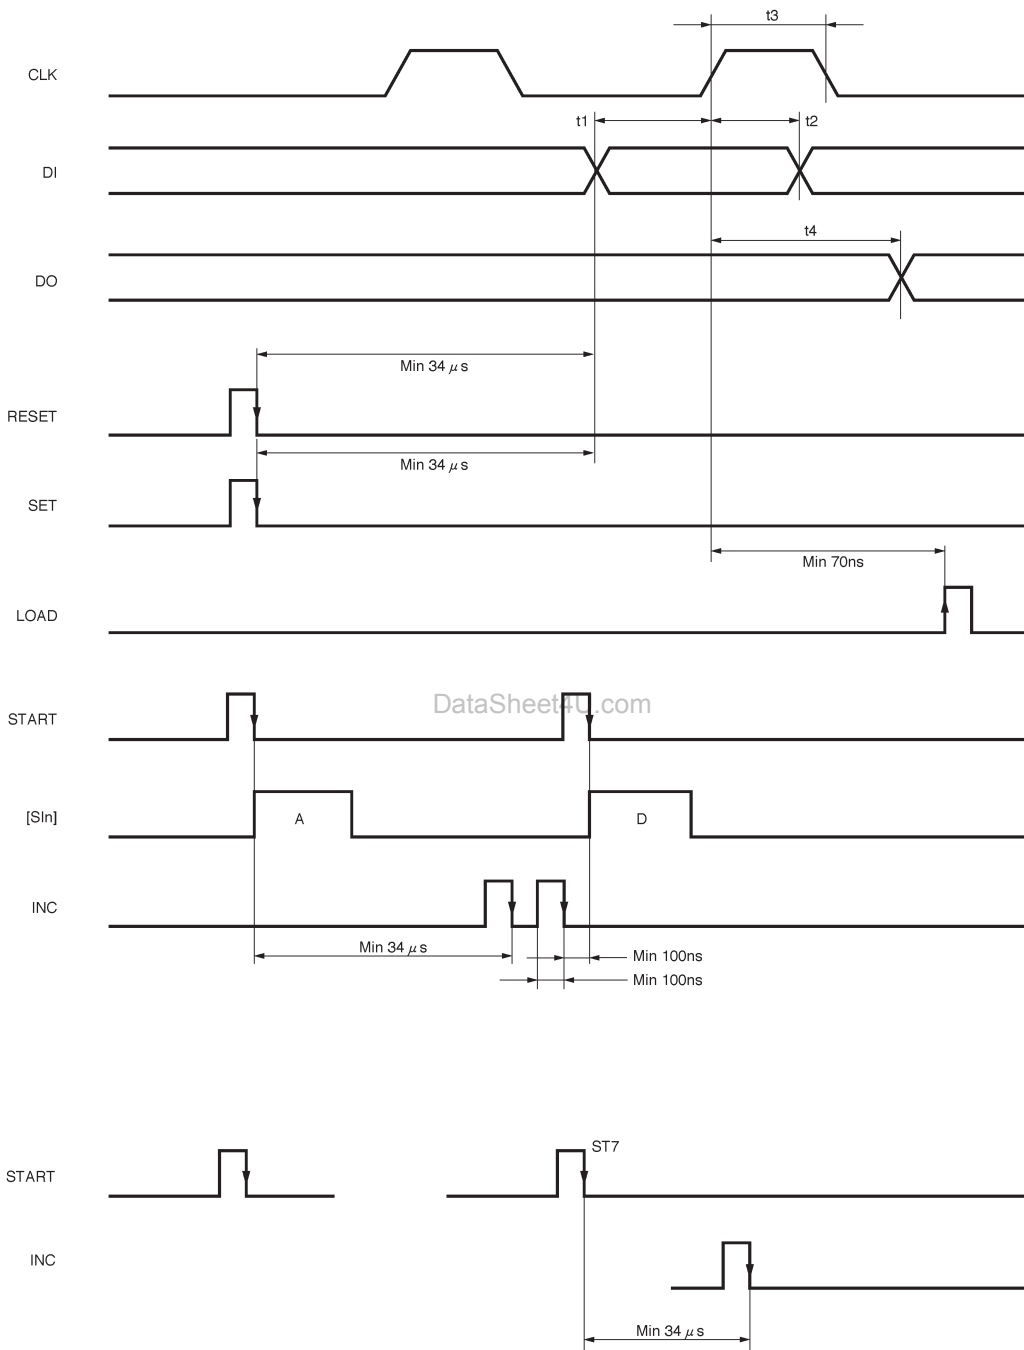

Fig. 2
**INC** : Supports the increment function from level 1 to level 6. One level is incremented for one pulse. (See Fig. 2)
**RESET** : Sets all data at "LOW". Clears data when printing is resumed after a pause. (See Fig. 2)
For two-part split printing, enter INC after 34 μ seconds of START7. (See Fig. 2)